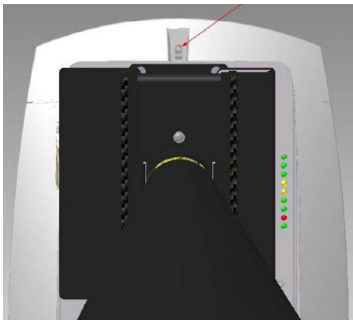
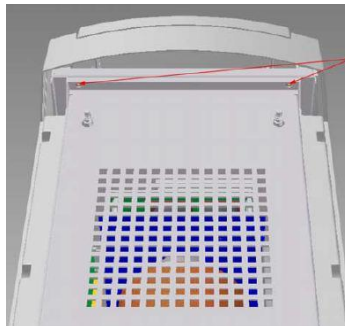
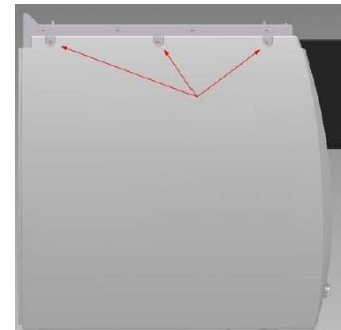

Fig 1
Fig 2
Fig 3
2. Remove the top cover by loosening the rear fastening screw in Fig 1 enough to slide the cover back and lift straight up. Remove the front cover by removing the fastening screws in Fig 2, and unplugging the TA logo LED cable. Remove the right-side panel by the three fastening screws in Fig 3 and lifting upwards and away.